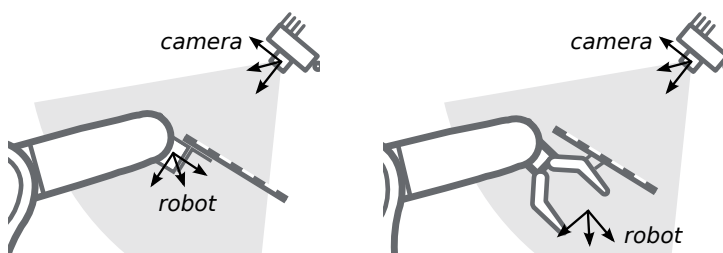

Fig. 6.17: Alternate mounting options for attaching the calibration grid to the robot
**Calibration with a statically-mounted sensor** In use cases where the *rc\_visard* is positioned statically w.r.t. the robot, the calibration grid needs to be mounted to the robot as shown for example in Fig. 6.16 and Fig. 6.17.
**Note:** The hand-eye calibration component is completely agnostic about the exact mounting and positioning of the calibration grid w.r.t. the user-defined robot frame. That is, the relative positioning of the calibration grid to that frame neither needs to be known, nor it is relevant for the calibration routine, as shown in Fig. 6.17.